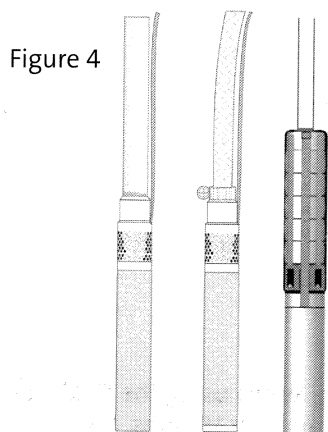

Figure 4
1. A discharge hose or pipe to connect to the pump (See Figure 4).